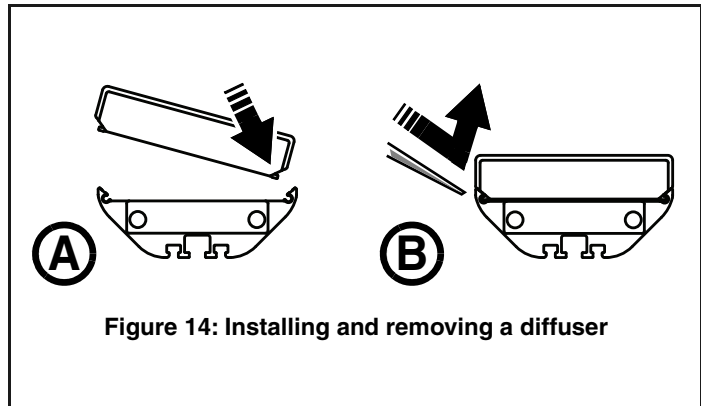

Figure 14: Installing and removing a diffuser
2. See Figure 14. Push one side of the diffuser / lens into the front of the fixture, then push the other side down also (see **A**) so that both sides clip into place.
2. Grasp the diffuser with pipe grips and the jaws available from Martin, or press the lever ends of two Magnetic Swiper Test Tools (see **B** in Figure 14) between one side of the diffuser / lens and the fixture. Lift the diffuser out of its clip and away from the fixture.